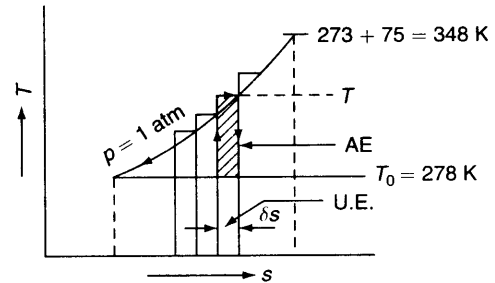

Fig. Ex. 8.3
**Solution** If the water is cooled at a constant pressure of 1 atm from 75°C to 5°C (Fig. Ex. 8.3) the heat given up may be used as a source for a series of Carnot engines each using the surroundings as a sink. It is assumed that the amount of energy received by any engine is small relative to that in the source and the temperature of the source does not change while heat is being exchanged with the engine.